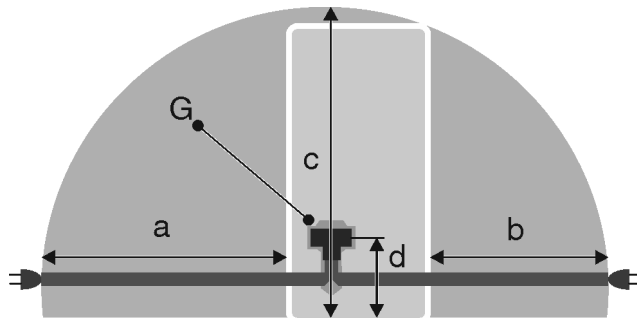

Fig. 29*
- The socket is not located behind the appliance but in areas a or b Fig. 29 (a, b, c).
- ▶ Insert the appliance plug Fig. 29 (G) on the rear side of the appliance. Ensure that they latch into place correctly.